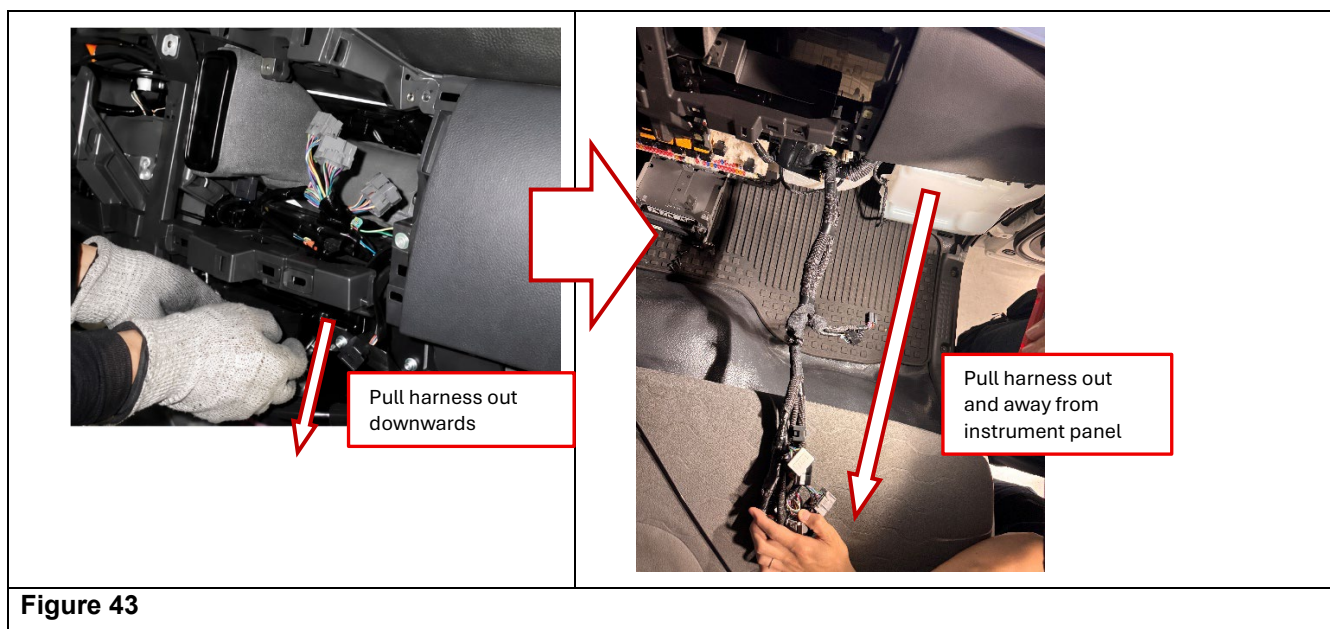

Figure 41
44. Remove the clip securing the WAM and BCM unit assembly harness. (See Figure 41.)